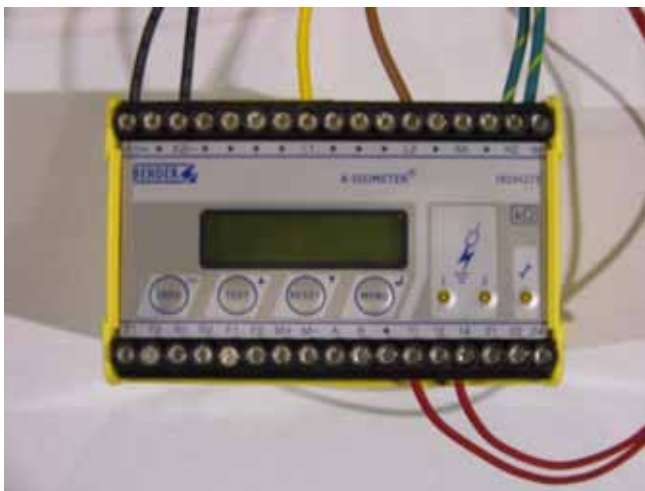

Figure 2 Ground Fault Harness to Bender Relay Connection
3. Connect the Ground Fault Harness (1-152539-01) to the Bender Relay, see Figure 2.